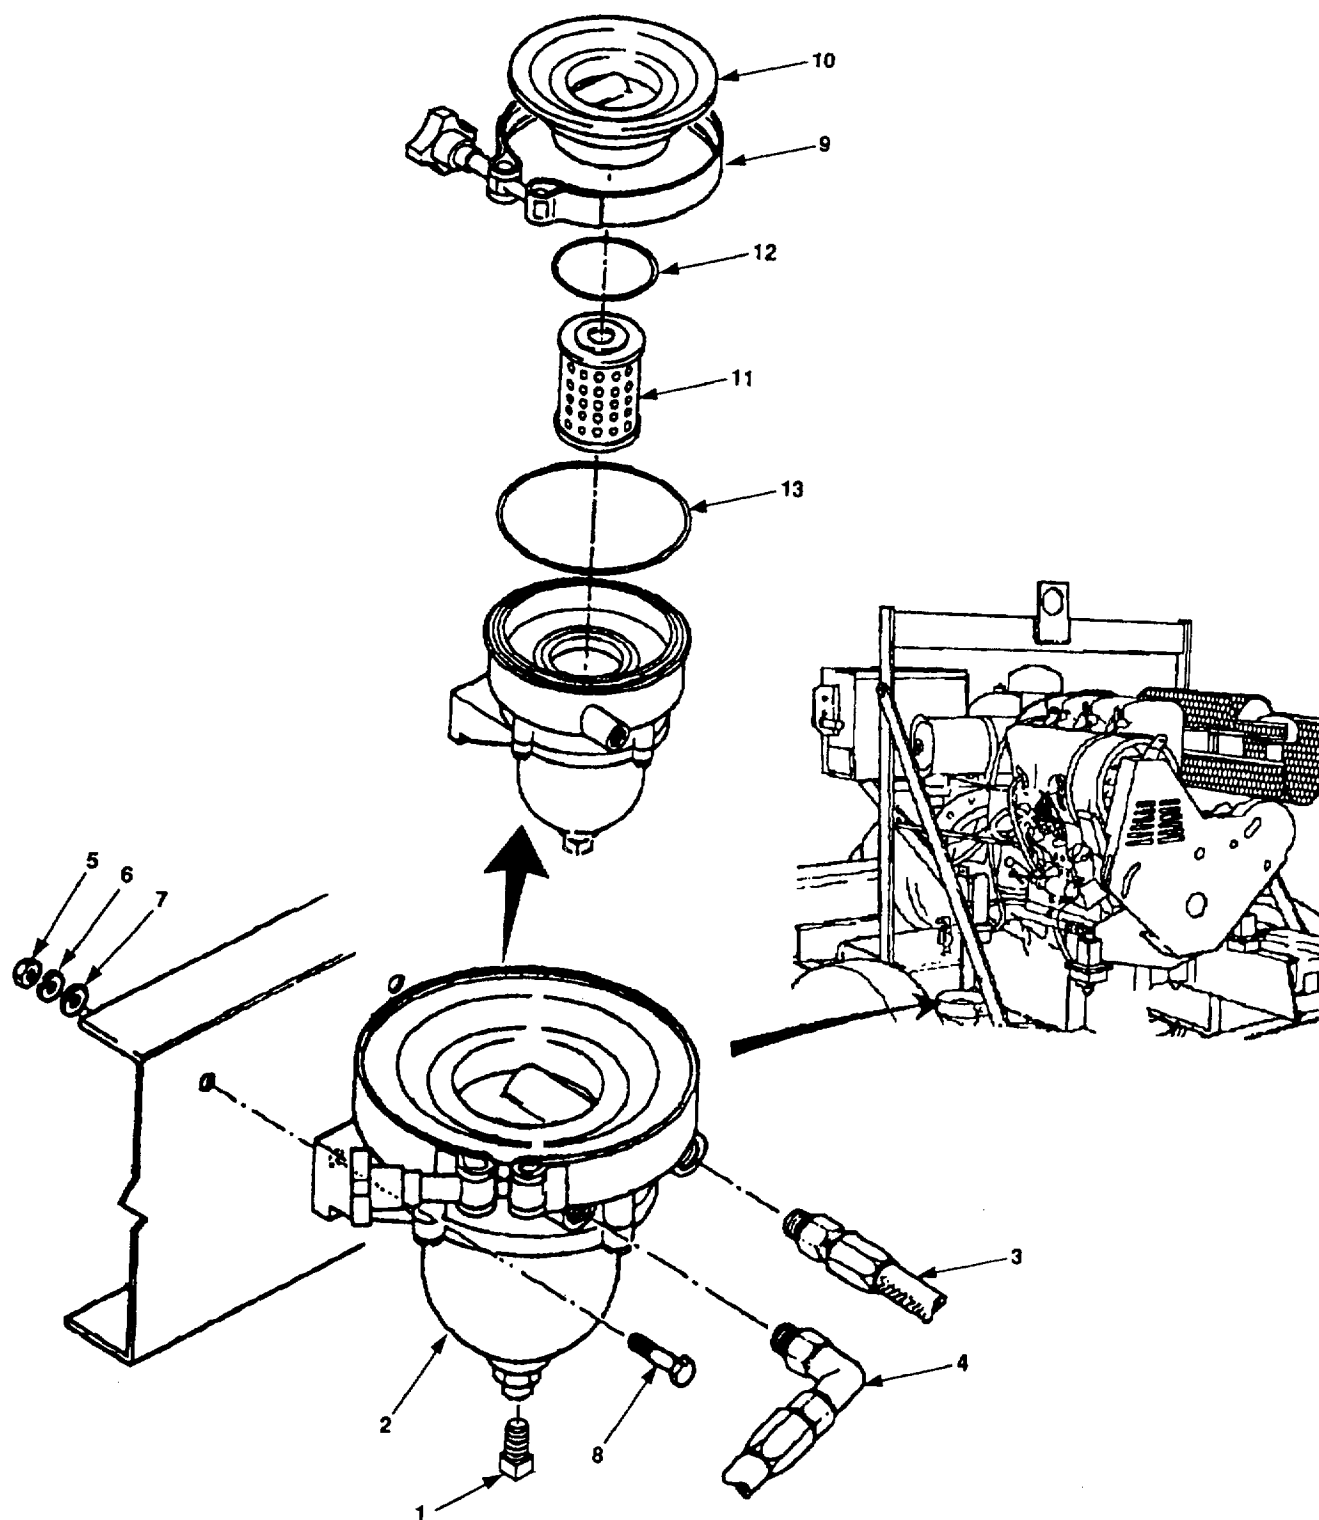

Figure 4-65. Water Separator Maintenance (All Except Model 350 PAFN).
- a. Remove drain plug (figure 4-65, 1) and drain contents of water separator (2) into suitable container. Install drain plug.
- b. Tag and disconnect fuel inlet line (3) and outlet line (4) from water separator (2). Cover openings.
- c. Remove two nuts (5), washers (6), lockwashers (7), bolts (8) and water separator (2).
- d. Remove retaining clamp (9), lid (10) and discard element (11).
- e. Remove upper lid preformed packing (12) and lower lid preformed packing (13) and discard.
- a. Install new upper lid preformed packing (12) on filter body.
- b. Install new lower lid preformed packing (13) on lid (10).
- c. Install new element (11) on lid (10).
- d. Install lid (10) onto filter body and secure with retaining clamp (9).
- e. Attach water separator (2) to frame with two bolts (8), washer (7), lockwashers (6) and nuts (5).